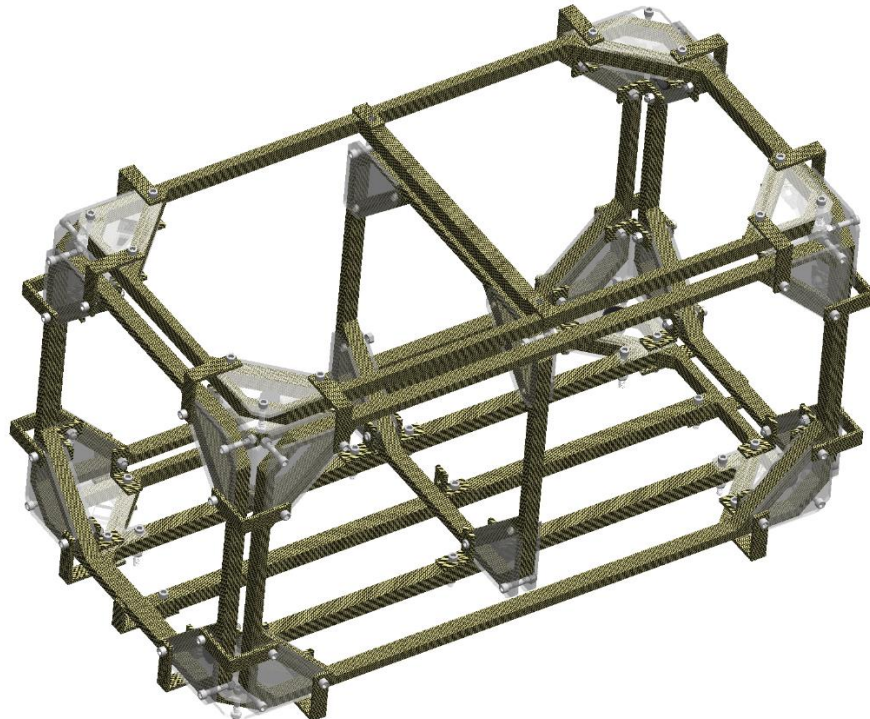

Figure 1.14
15. Epoxy the Top Beam Support (PN THOA003) to the inside faces of the long sides of the Top Coil (PN ASMB008). Immediately after, without letting the epoxy dry, epoxy the two Top Side Brackets (PN THOA004) to both the Top Beam Support and the Top Coil as shown in Figure 1.14. Ensure that the sides of the Top Beam Support are flush with the sides of the Middle Coil (PN ASMB003).